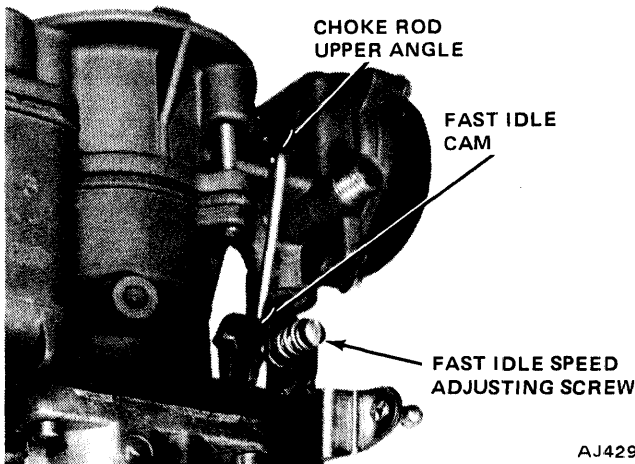

Fig. 4-31 Fast Idle Cam Linkage Adjustment
(1) Position fast idle screw on second step of fast idle cam against shoulder of high step (fig. 4-31).
(2) Adjust by bending choke plate connecting rod to obtain specified clearance between lower edge of choke plate and air horn wall. Refer to Carburetor Service Specifications for proper clearance.